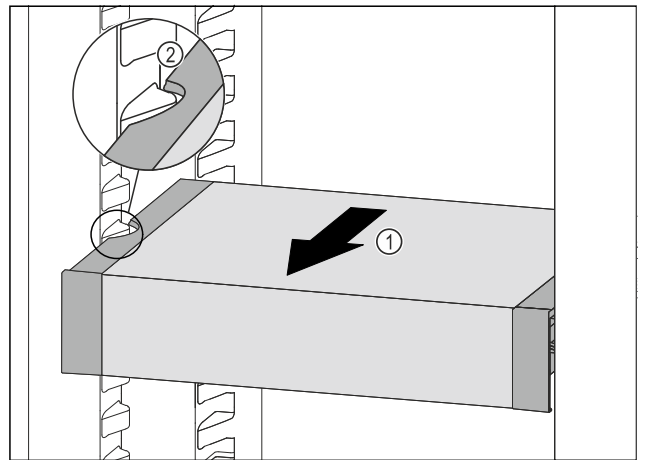

Fig. 150
- Pull VarioSafe forwards Fig. 150 (1) until the recesses in the side of the VarioSafe are at the level of the support rib in the fridge section. Fig. 150 (2)